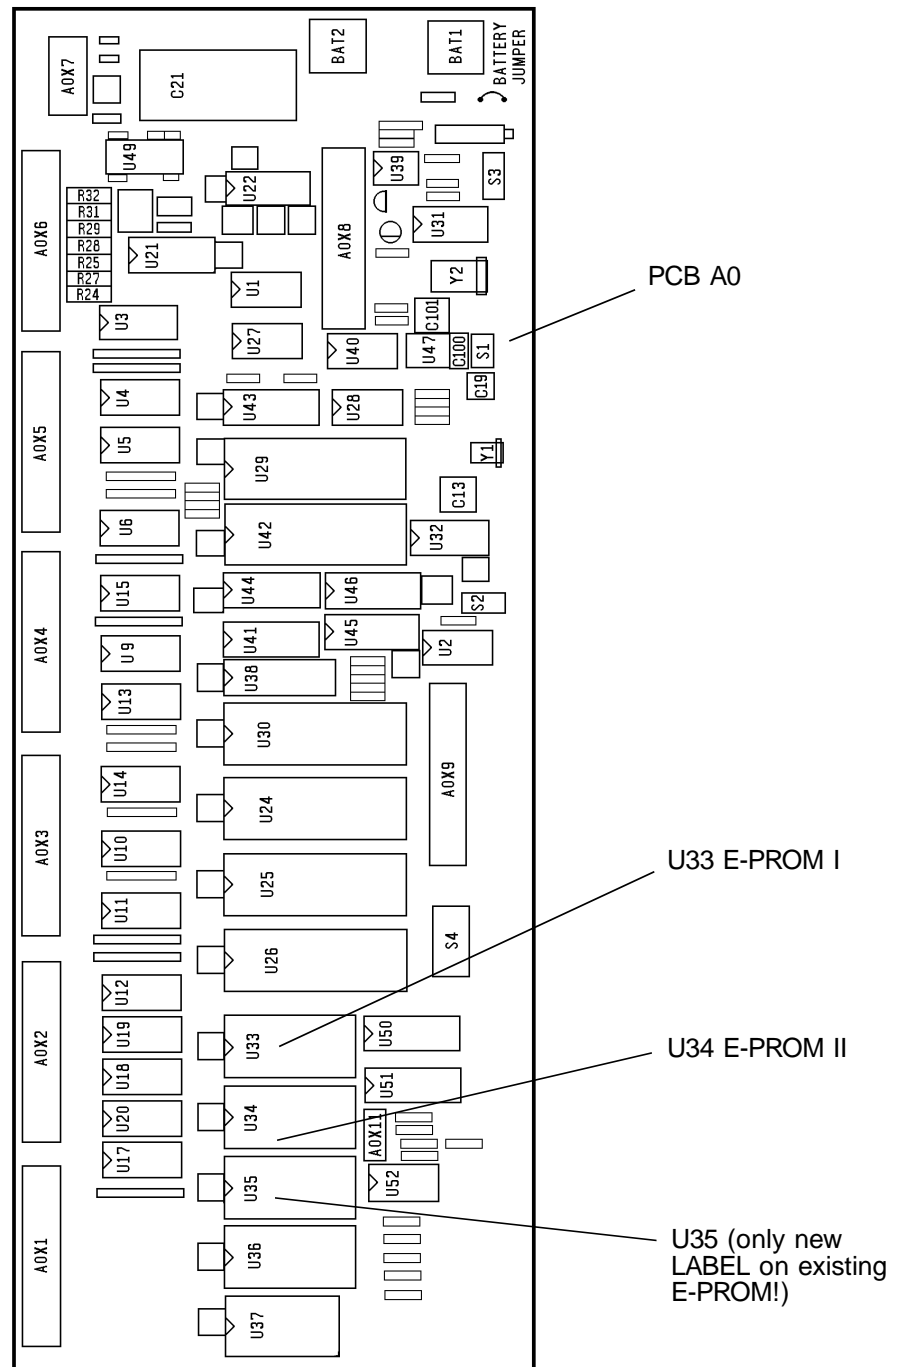

figure 7
25. Install the new E-PROMS and the new LABEL on U35 on PCB A0 and PCB A2.(See figure 7 and 8)